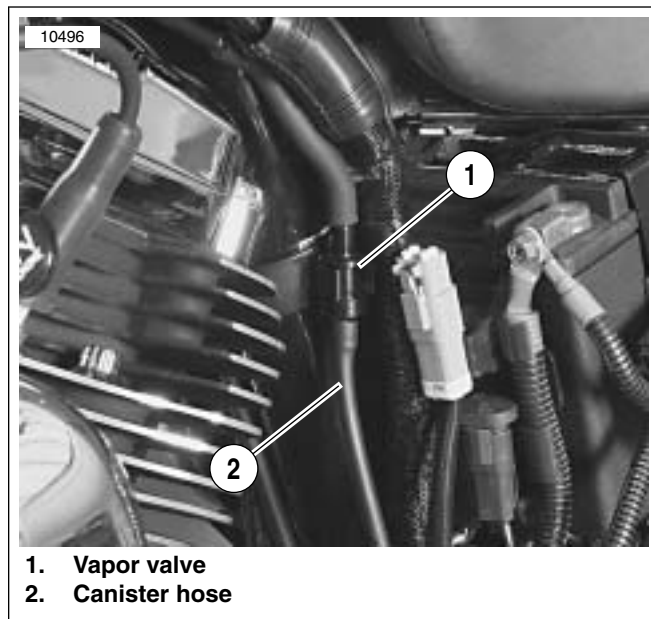

Figure 1. Vapor Valve and Hose: Sportster Models
- **Sportster models:** See Figure 1. The vapor valve (1) is located in a clip on the left side of the frame tube behind the engine. No vehicle disassembly is required to remove the canister hose (2) from the valve.
See Figure 1. The left side cover is removed for clarity in the figure. It is not necessary to remove the side cover to gain access to the vapor valve (1).